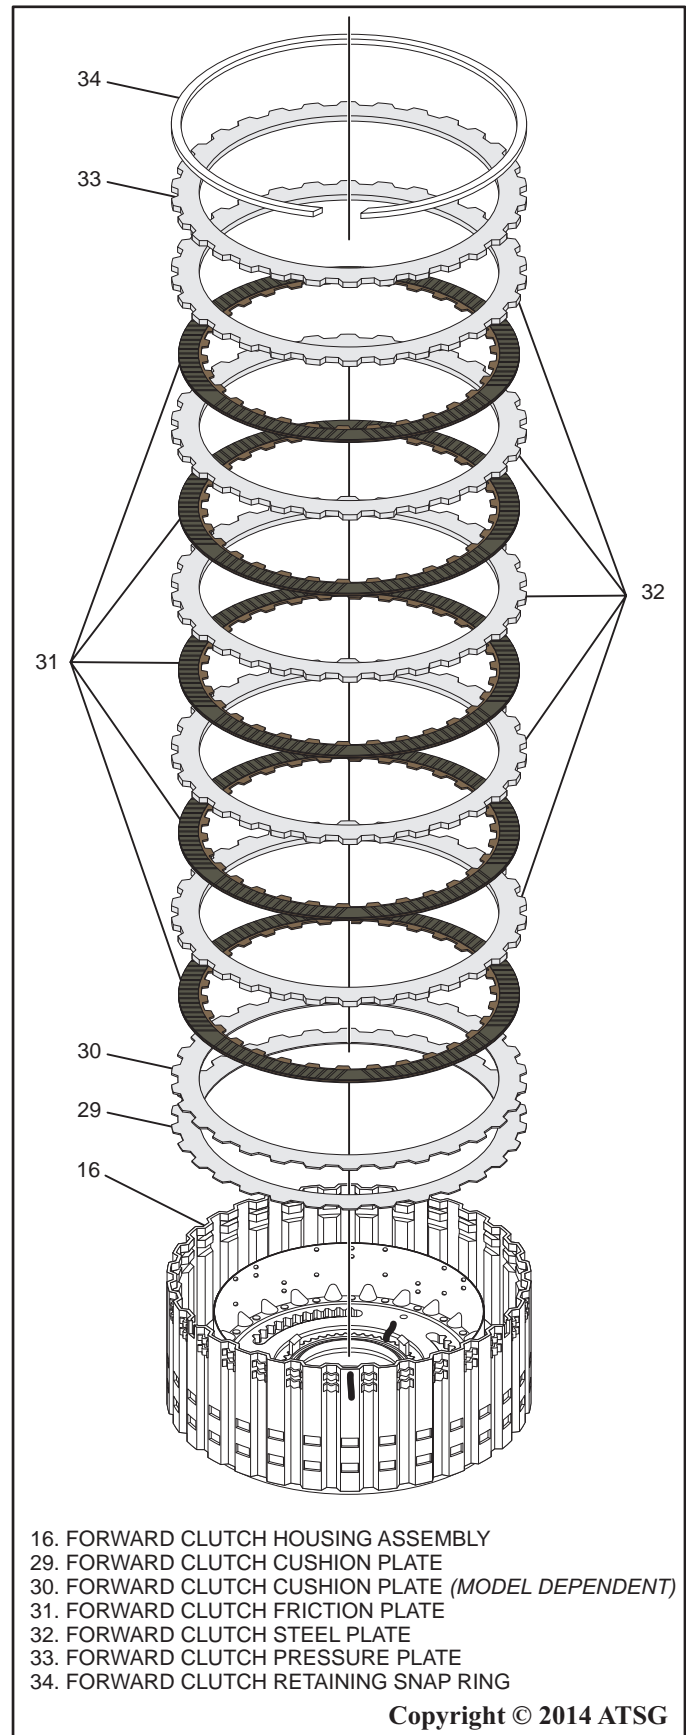

Figure 89
43. Install the forward clutch cushion plates as shown in Figure 89.
44. Install a new forward clutch friction plate, then alternate between installing steel plates and friction plates as shown in figure 89.
45. After installing the last forward clutch steel plate, install the forward clutch pressure plate and retaining snap ring as shown in Figure 89.